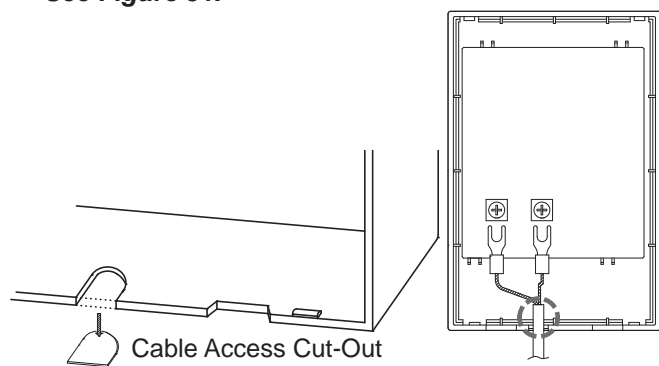

Figure 51. Cable Access Cut-Out and Terminal Connection
6. Place the Main body back on the Back plate, with the Remote controller cable running out of the bottom inlet. See **Figure 51**.
3. Locate the two terminals for the remote controller in the water heater. (Refer to **Figure 51**.)